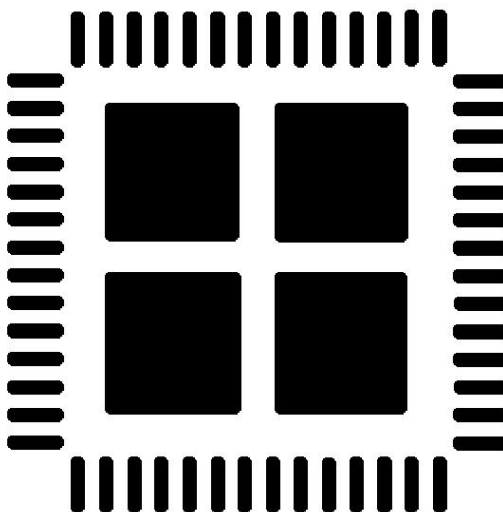

Figure 12: Recommended Solder Paste Mask for 56TQFN Package
- The solder mask used is shown in Figure 12. The pad stacks used are 0.25 mm by 1 mm for the smaller pads, and four 2.5-mm square pads to apply paste to the paddle. The solder paste mask has a thickness of 6-thou (0.152 mm). If the paste thickness needs to deviate from that used by Jennic then it may be necessary to change the number of pads that the paste is applied to. Paste thickness may be dictated by other components used in a design.